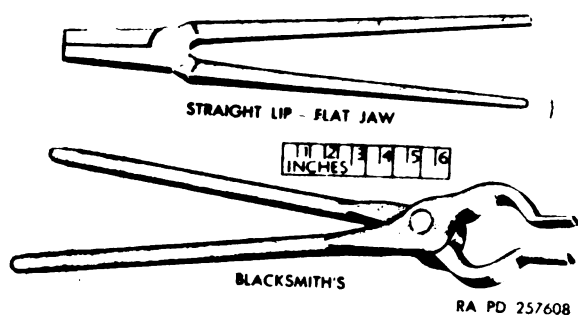

Figure 138. Tongs.
f. *Tongs.* Tongs (fig. 138) differ according to their use. The blacksmith's tongs are used for picking up and holding hot metal. The straight lip, flat jaw tongs are used to hold bearings and bearing inserts, while setting them in place.